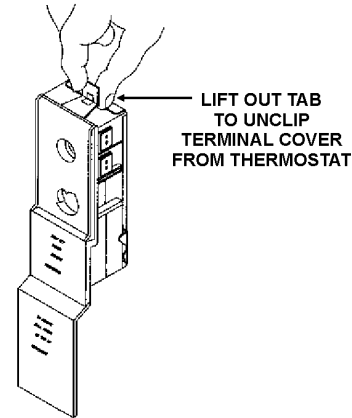

FIGURE 24.
2. Turn off the water supply to the water heater at the water shut-off valve or water meter. See Figure 24.